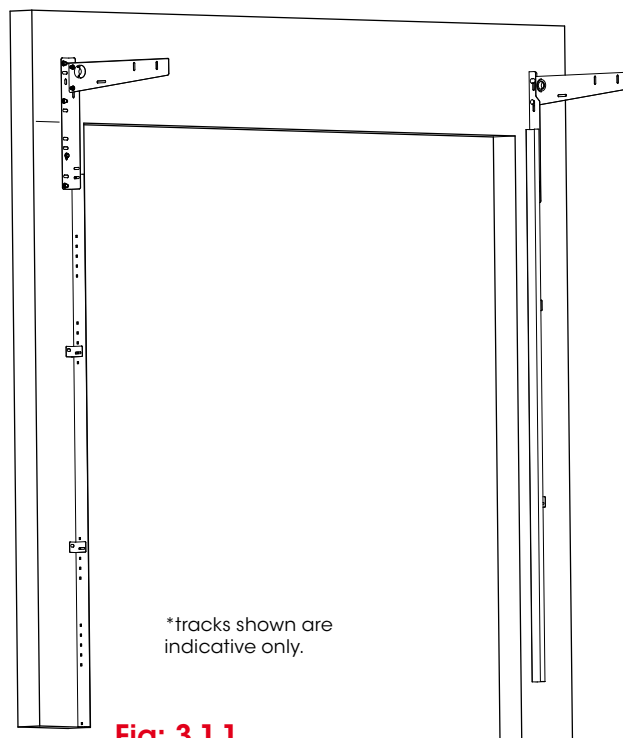

Fig: 3.1.1
- Set the vertical tracks parallel on both sides of the door. Use the level/datum marks to ensure the tracks are level with each other or the door will not function correctly. Fig 3.1.1